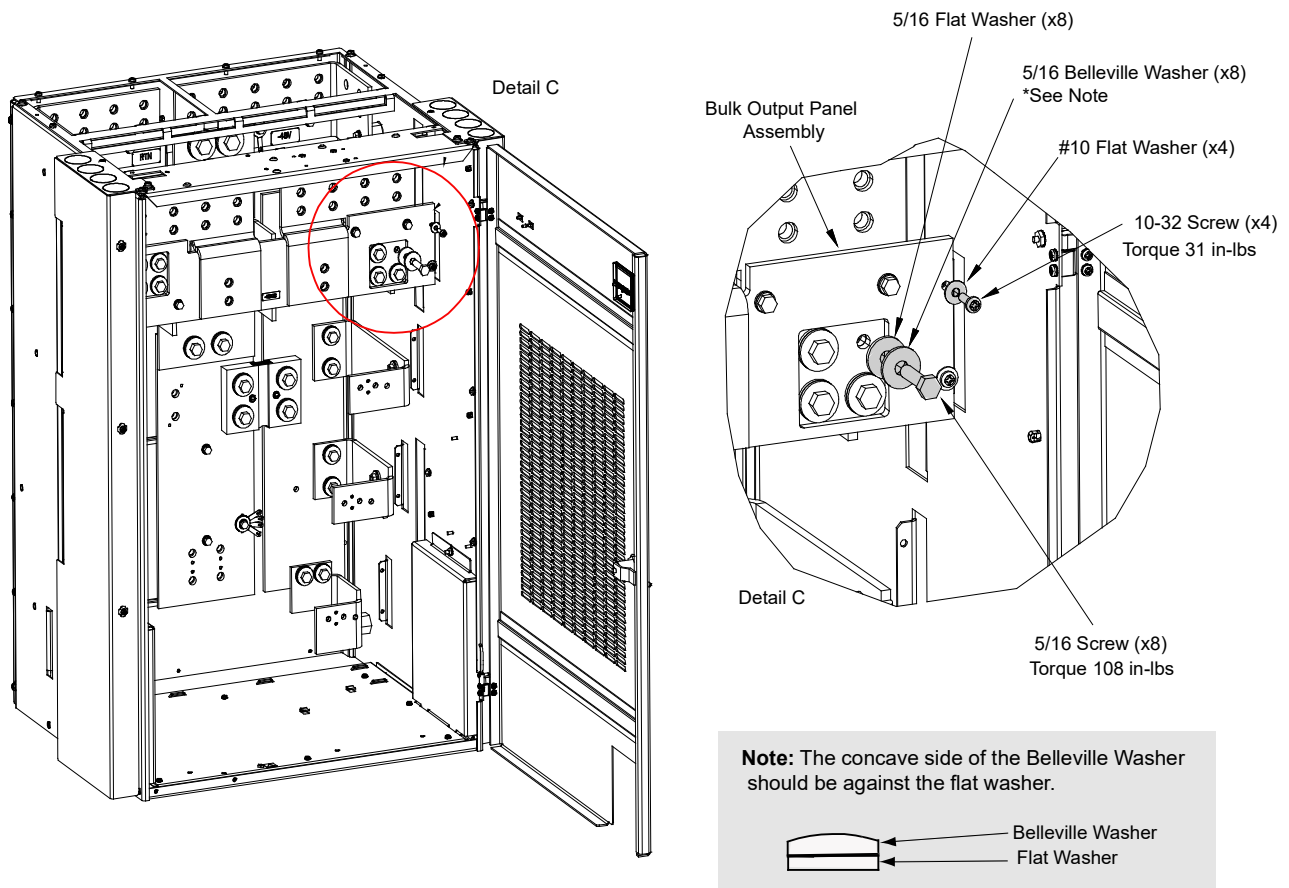

**Figure 1.4** Mounting the new busbar (P/N 562473) to the hot side, re-use original hardware.
- [ ] 5. Mount the new busbar (562473) to the hot side as shown in **Figure 1.4**.